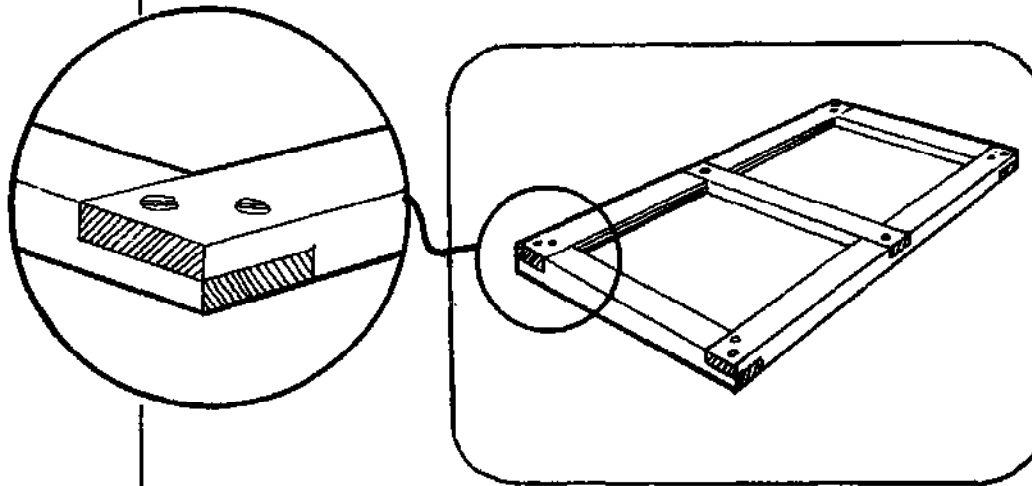

Figure 3
*Important:* This frame is the box cover. Its outside dimensions must be 1/8" larger than the outside of the box. If the box is a perfect 96"x48", you will cut two 96 1/8" pieces and two 48 1/8" pieces. But *wait!* Measure the box. Then cut and build to fit the largest dimensions of the box. Form a rectangle using glued-and-screwed lap joints as shown in Figure 3. *Make sure this frame is square!*
- 2.2 Lap join to form a rectangle as shown in Figure 3. Glue, then screw joints together. Screws should be on a diagonal to avoid splitting.